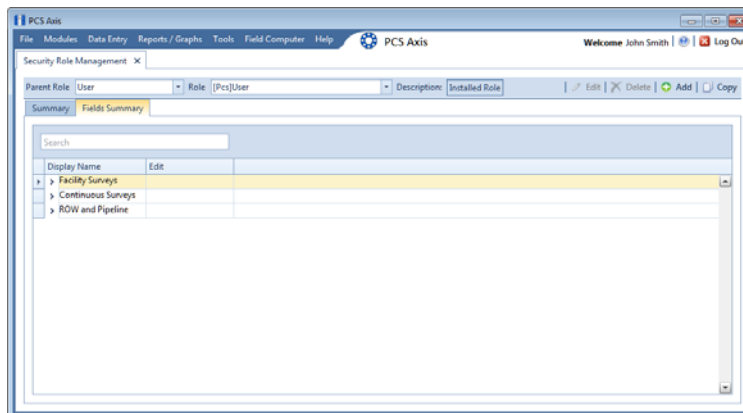

Figure 3-21. Edit Security Role - Fields Edit Tab
- 6 Click the *Fields Edit* tab to edit permissions for fields (Figure 3-21).